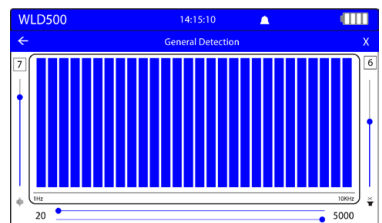

Fig. 3.2 _General Detection- Identification Sample
3. This mode will pick up the underground and environmental noises which are used for the quick detection of water leaks. Detected water leak spot will be indicated by the maximum spectrum bars throughout the screen.*fig.3.2*